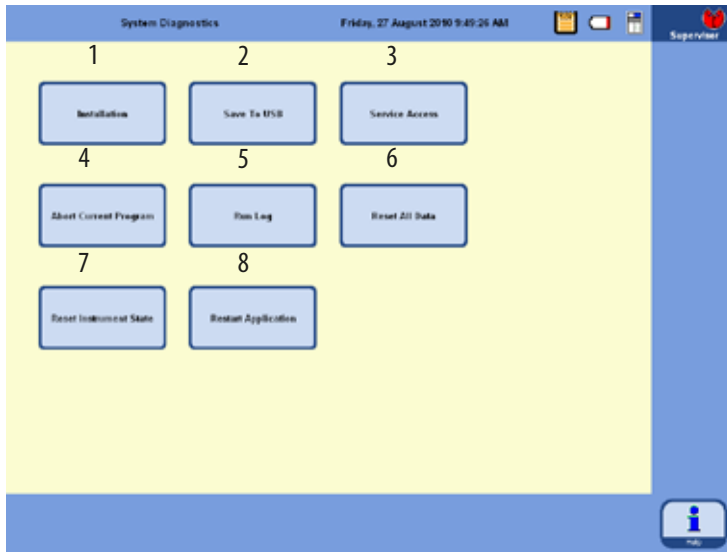

Fig. 60
in the lower right hand corner during initialization (Fig. 58). This takes you to the **SYSTEM DIAGNOSTICS** menu (Fig. 60).
**To do so, press the RESTART APPLICATION button (8 in Fig. 60) and confirm the following prompt with YES. The initialization restarts as shown in Fig. 58 and Fig. 59.**